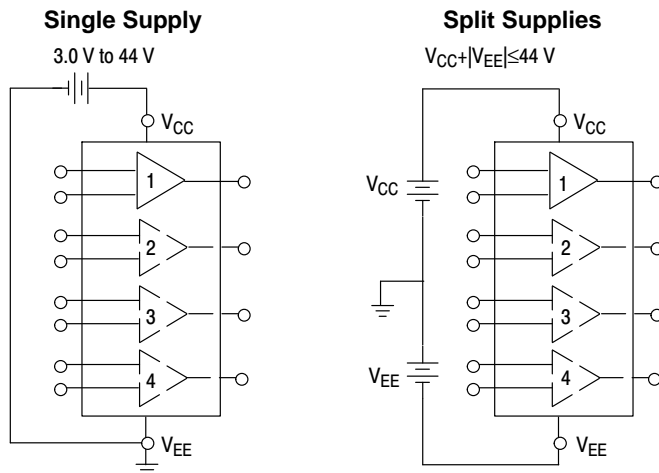

Figure 2. Power Supply Configurations
2. Power dissipation must be considered to ensure maximum junction temperature (T_J) is not exceeded (see Figure 2).